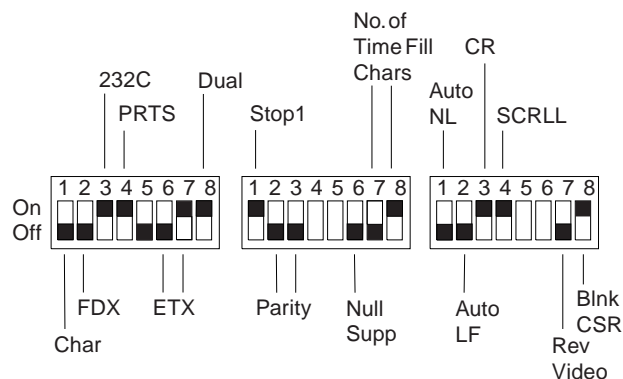

Figure 3-4. Setup Attributes for the IBM 3101 Display Terminal
**IBM 3101 Setup Attributes:** Use Figure 3-4 to determine the settings for the setup attributes for the IBM 3101 ASCII terminal.